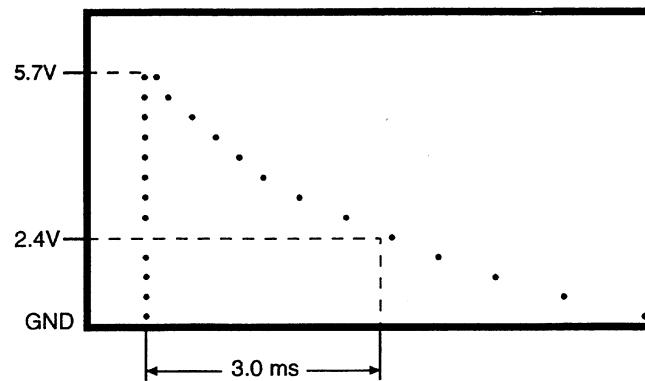

Figure 3-5. Waveform for Inductive Pickup Test
9. Adjust the amplitude of the function generator to produce a 3VP-P triangle wave. See Figure 3-5(A).
12. Check that the peak voltage is greater than 6.0V and decays to less than 1.0V between pulses. See Figure 3-5(B).
15. Check the amplitude after 3.0 ms from the waveform peak, the voltage amplitude is 2.4V +0.5/-0.8 (1.6V to 2.9V). (See Figure 3-5(C).)